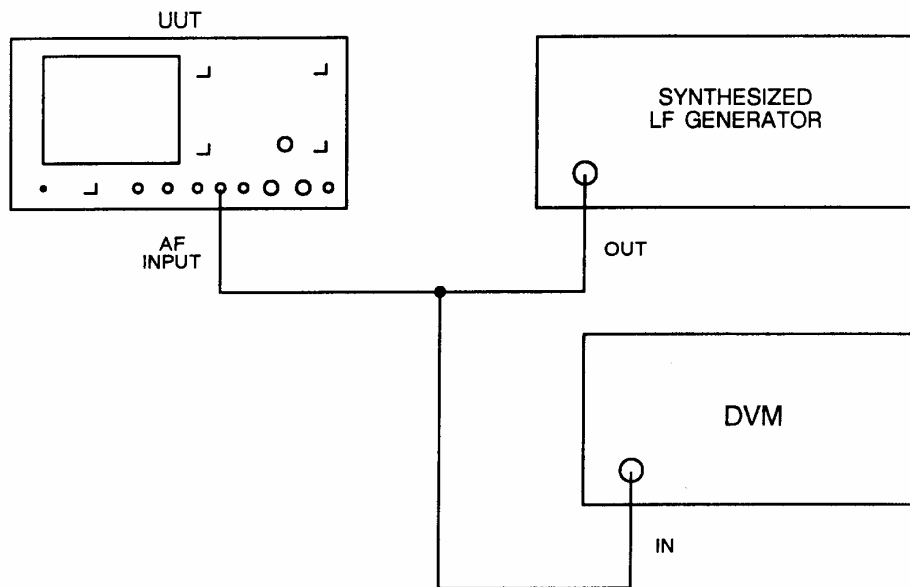

Fig. 5-2-8 Test equipment connections for adjusting R209 on AB5/1
- (1) Connect the equipment as shown in Fig. 5-2-8.
- (2) Set the synthesized LF generator to give a 1 kHz sinewave and adjust the level for an indication of 0.707 V RMS on the DVM.
- (3) Adjust R209 for a 2 V pk-pk (4 divisions) indication on the UUT oscilloscope.